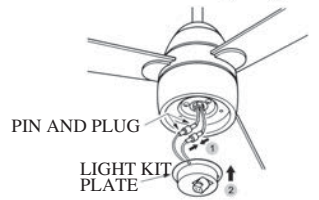

FIG.16
2. Plug in the light wires from fan and the light wires from light kit plate with pin and plug . Place the light kit plate into the bottom housing. (see Fig.16)